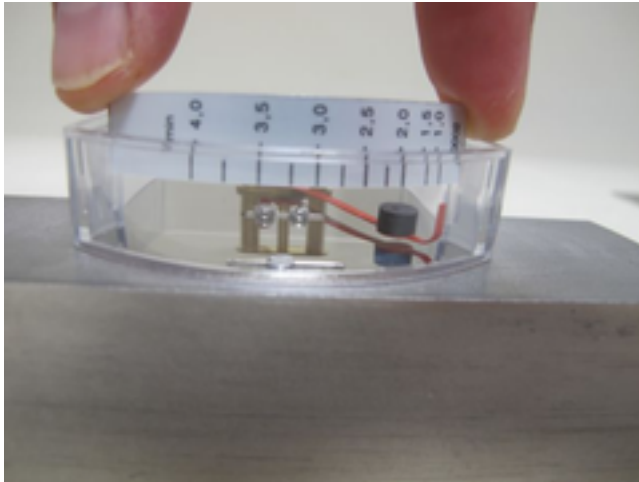

Fig. 75: Insert the scale bar
- 17.** Slide the scale holder (with the affixed scale) into the guide of the plastic housing. (Fig. 75). Note direction of flow (lower scale value toward the input side of the device).